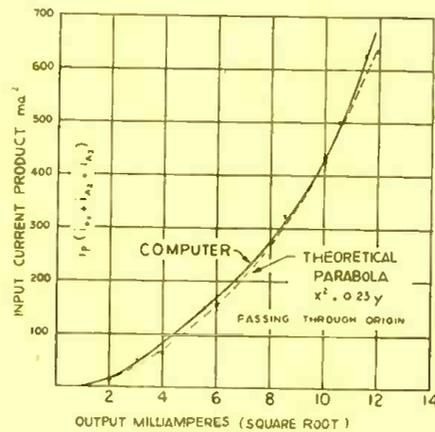

Fig. 6. Square root of a product.
By measuring  $i_1$  in (9), the square root of  $i_p (i_{A1} + i_{A2} + i_{A3})$  is obtained. A curve for this square root procedure is shown in Fig. 6.